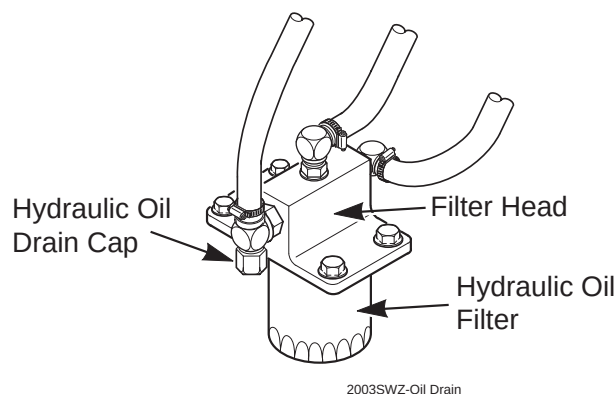

Figure 14 Hydraulic Oil Drain Cap
2. Place a suitable container under the hydraulic oil drain. Remove the fill cap from the reservoir. Remove the drain cap from the T-Fitting located on the hydraulic system filter head. (See Figure 14). Allow the fluid to drain into the container and properly discard it.
1. Remove the oil filter element (Figure 14) and properly discard it. Fill the new filter with clean oil and install the filter. Hand tighten only.